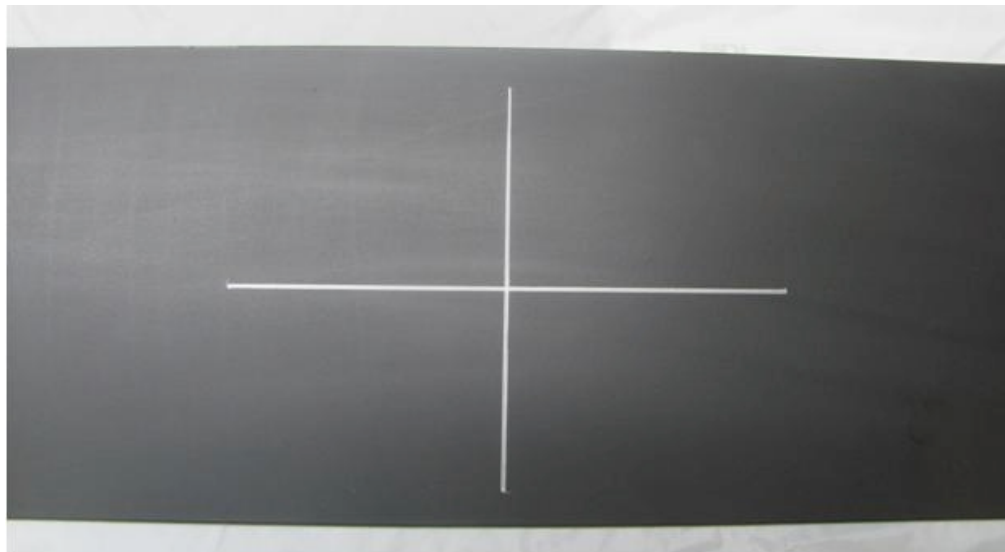

Figure 10: Marking ST350 Center Mounting Location
1. Locate the centerline of the gaging area in both the longitudinal and transverse directions. First, locate the midpoint and draw two centerlines as shown in Figure 10. The longitudinal centerline should be approximately 4 in (100 mm) long and the transverse centerline should be approximately 2 in (50 mm) long. This will allow the marks to be seen while the strain gage is being positioned.